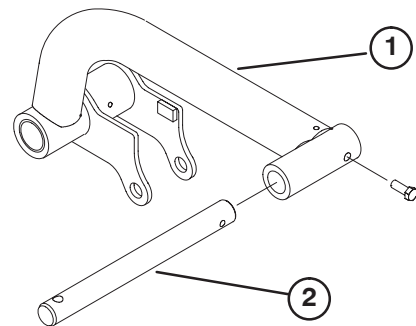

Figure 9
2. Insert a pivot rod into each (R.H. & L.H.) lift arm and align mounting holes (Fig. 9).